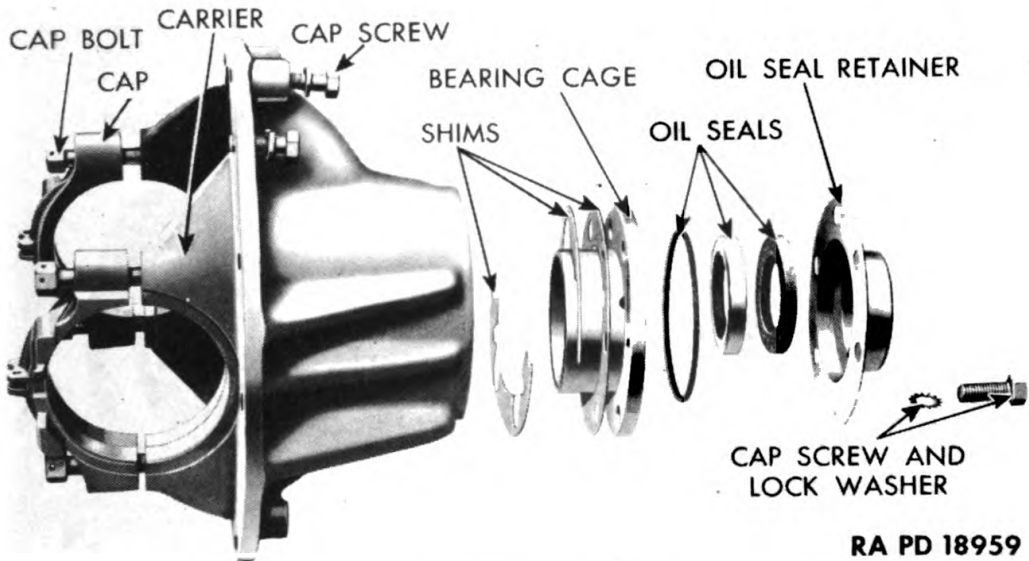

Figure 41 — Differential Carrier — Disassembled
o. **Disassemble Differential.** Figures 41 to 44 show details of differential construction. Install differential and carrier in stand, and disassemble as follows: